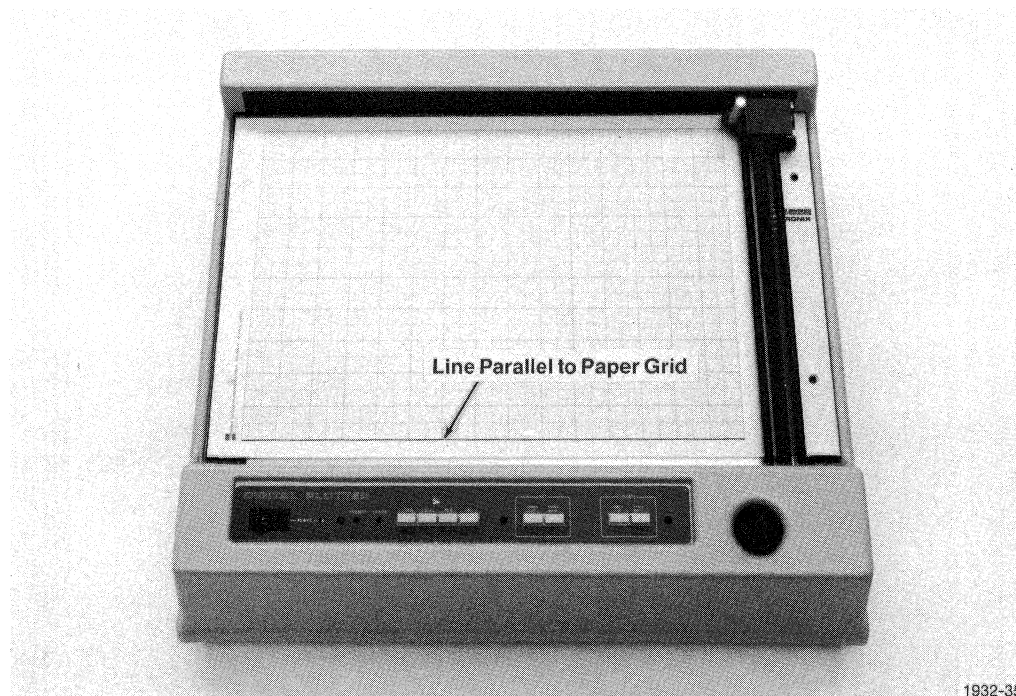

Fig. 4-5. X-axis line parallel to paper grid.
4. The line drawn should align with the paper grid, as shown in Fig. 4-5. If not, loosen the platen screws and align the platen again; then repeat steps 2 and 3. When the platen is properly aligned, carefully tighten the platen screws without moving the platen.